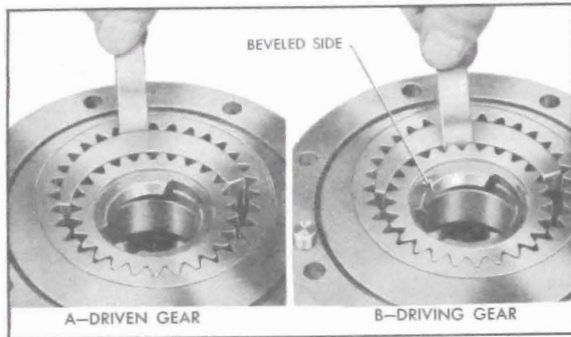

Figure 5-67—Checking Clearance Between Crescent and Gears
8. Insert feeler gauge between crescent and driving gear to check clearance, which should be .010" to .016" on front pump and .006" to .012" on rear pump. See figure 5-67, view B.
3. Lubricate and install gears in front pump body. The driving gear must be installed with the beveled side outward so that this side will be against the cover when pump is installed. See figure 5-67. *Reversing this gear in pump body will result in severe damage to the transmission.*